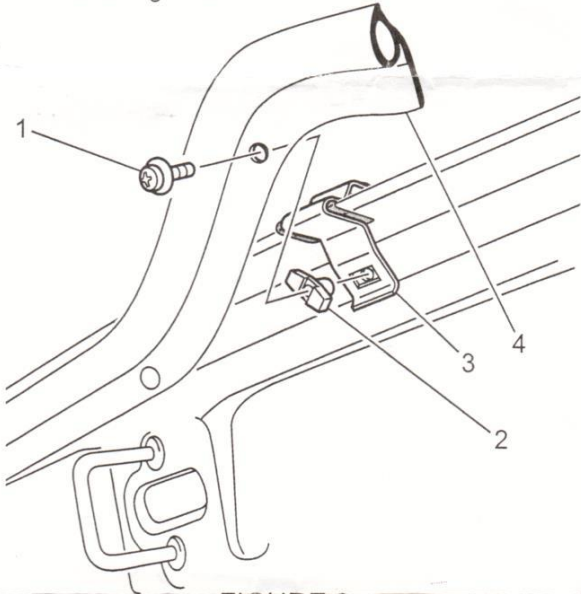

FIGURE 8
8. Use the self tapping screws (1) and screw plugs (2) provided to secure the centre wing clips (3). Note that the self tapping screws also secure the bonnet seal (4) to the bonnet, replacing the retaining clips removed in step 4. Sequence: Abrasive resistant tape, centre wing clips, screw plug, bonnet seal, self tapping screw. Refer to Figure 8.